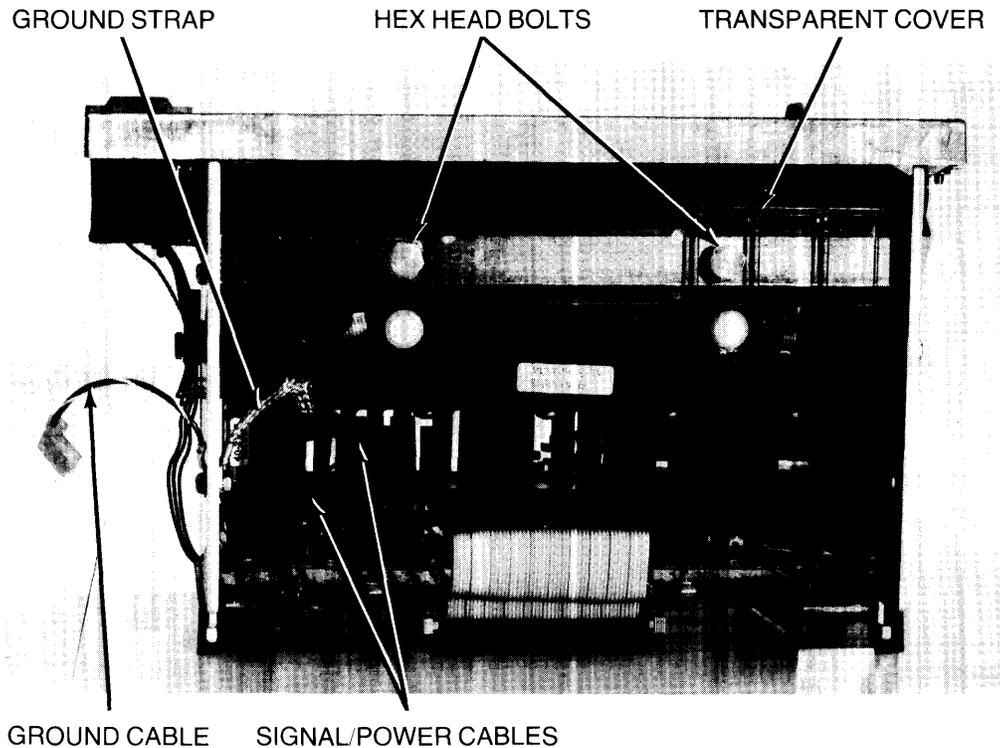
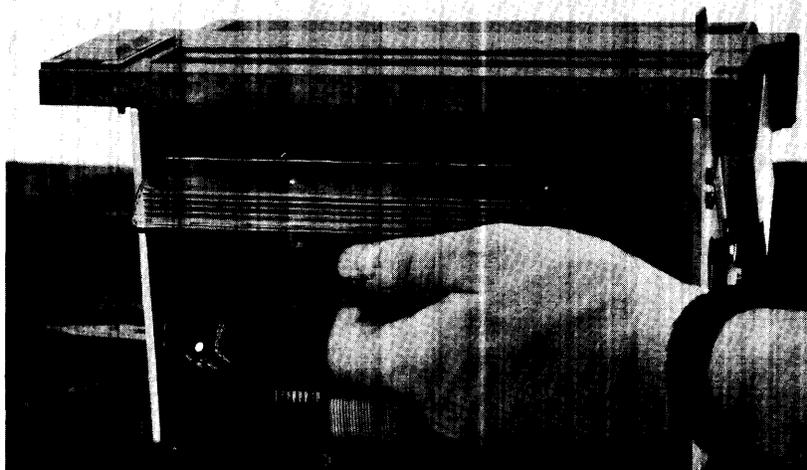

Figure 4-36. Disassembling Printer
Figure 4-37. Removing Transparent Cover
3. From front of printer, completely remove two signal/power cables (Figure 4-36).
4. Remove #2 Pozidriv screw, washer, and nut that attach ground cable and strap to side of printer and remove ground cable (Figure 4-36).
5. Remove two 7/16-inch hex head bolts and associated springs that attach transparent cover to printer (Figure 4-36), and remove transparent cover (Figure 4-37).
3. From front of printer, disconnect two signal/power cables, one from each board (Figure 4-36).